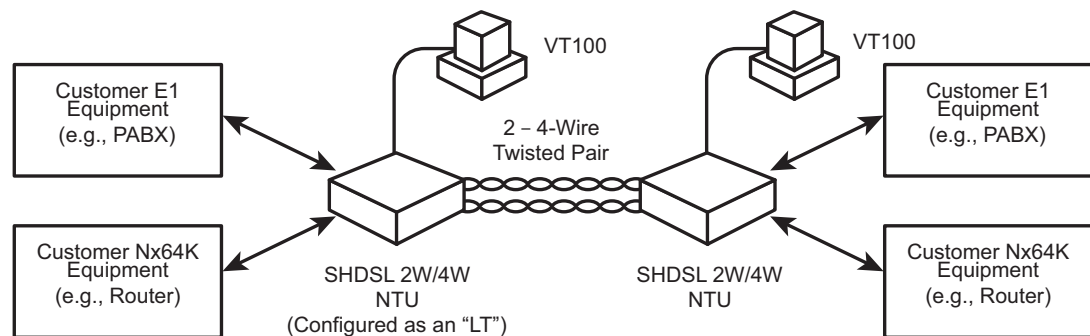

Figure 2. Typical Campus Application
- pair of units in a point-to-point limited distance campus configuration (see Figure 2), with one SHDSL 2-Wire/4-Wire NTU configured to “LT” mode.